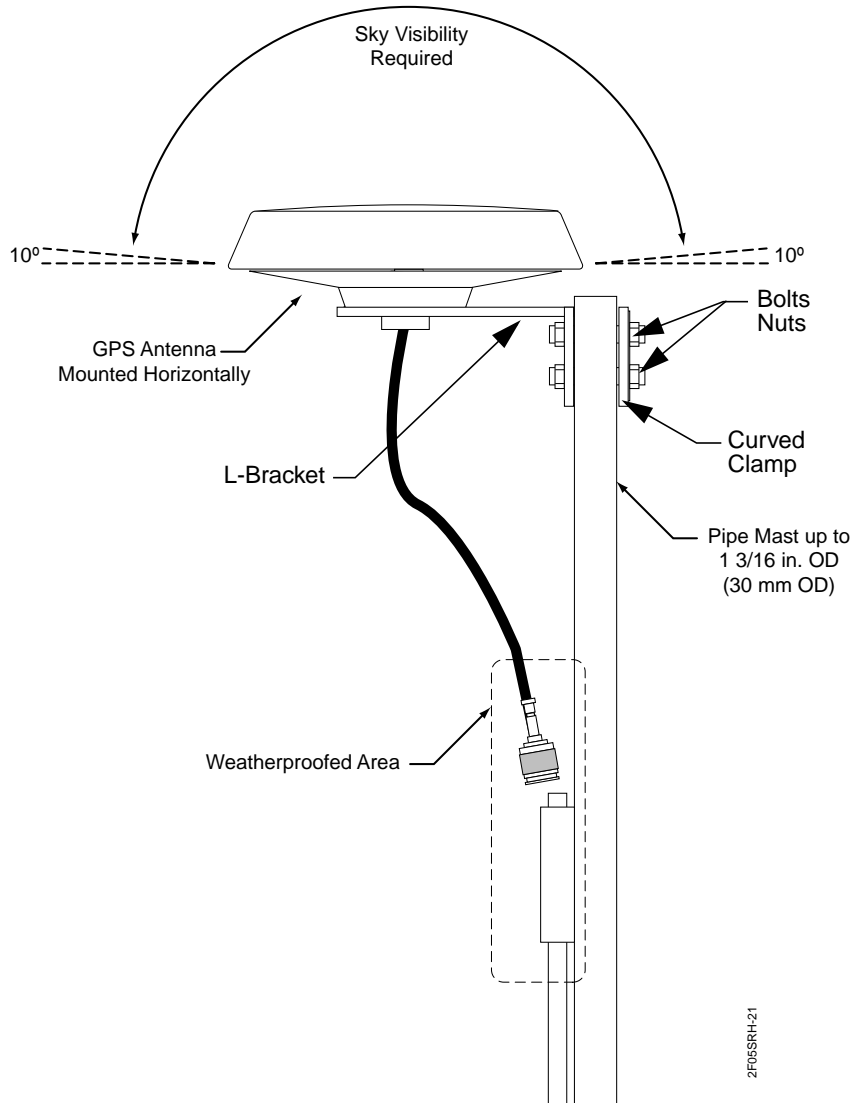

Figure E-1: Assembled Antenna, Cable, and Bracket
The disc-shaped GPS antenna should be mounted horizontally (see Figure E-1). The post-mounted L-shaped mounting bracket accepts a maximum diameter 30-mm post or bar.
1. Remove the antenna, cable, bracket, and hardware from the box. The antenna is completely assembled, including the L-shaped bracket of the post clamp (see Figure E-1). The curved part of the post clamp, the nuts, the bolts, and the washers are in a separate plastic bag.